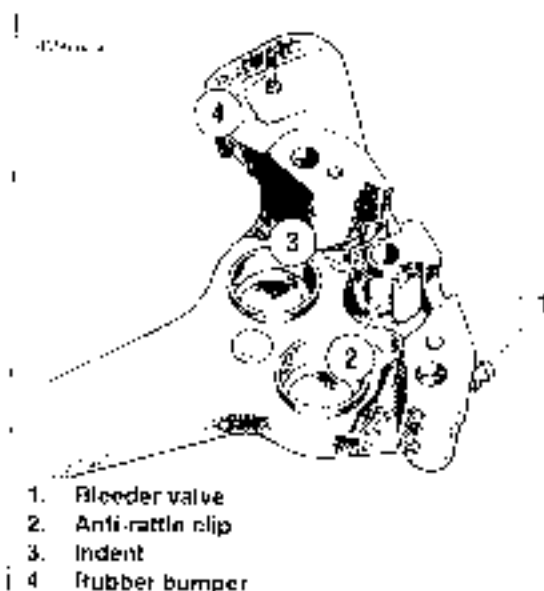

Figure 2-83. Anti-rattle Clip
- a. See Figure 2-83. Install bleeder valve (1) on outside caliper housing if removed. Tighten bleeder valve to 80-100 in.-lbs (9.0-11.3 Nm).
- b. Place outside caliper housing on workbench with front side down. Install anti-rattle clip (2) in channel with indent (3) facing upwards.
- g. If rubber bumper (4) on outside housing was removed, install new part before installation.
- Anti-rattle clip orientation matches Figure 2-83.